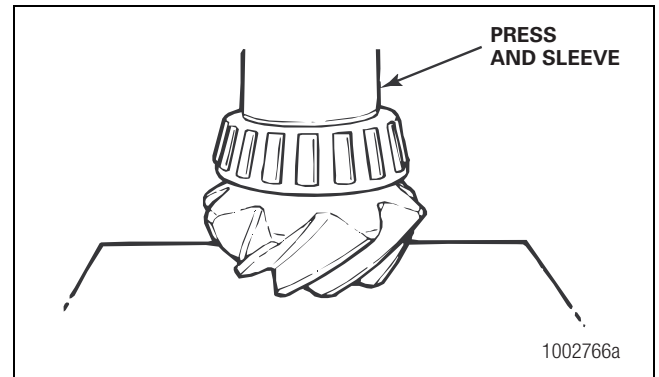

Figure 5.5
2. If removed, use a press and a sleeve to install the inner bearing cone onto the drive pinion. Place the sleeve onto the inner race of the bearing. Apply pressure until the bottom of the cone touches the shoulder on the pinion. Figure 5.5.